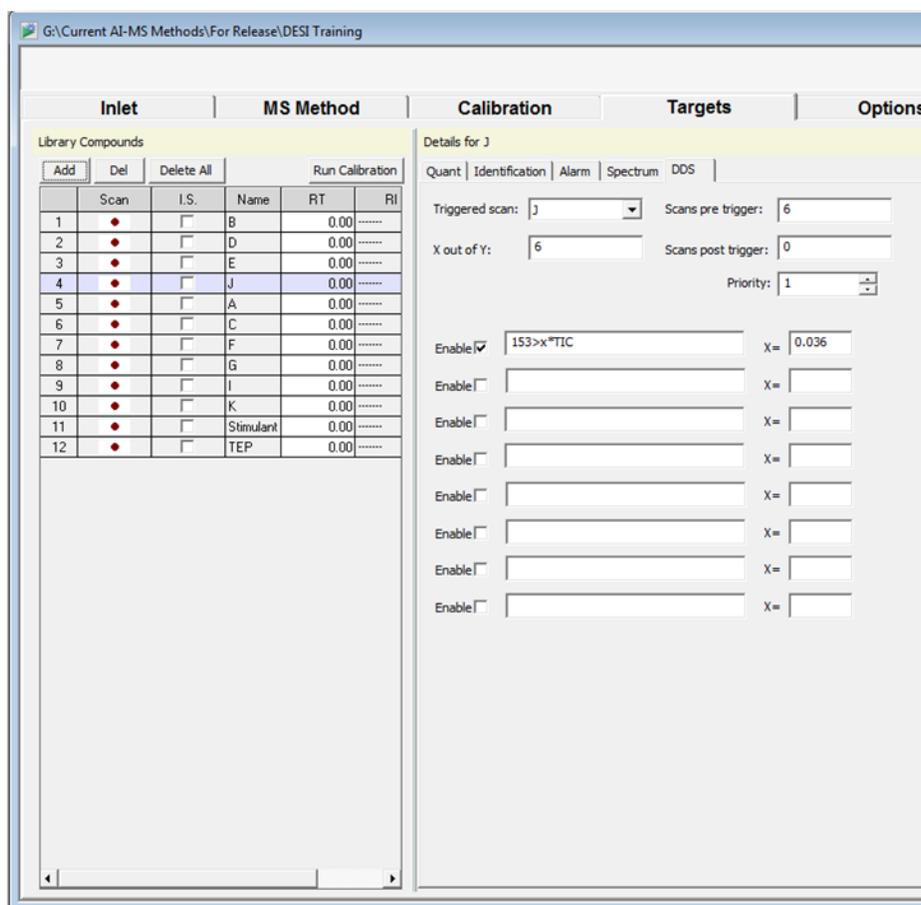

Figure 4.26 – “DDS” tab
7. Under the “Targets” tab, select “DDS” (Figure 4.26).
Eight rules can be used in order to initiate a triggering event during MS scanning. Generally, the pre-loaded method focuses on the total ion count, “TIC,” as shown above (Figure 4.26). The number entered into the rule slot is the m/z of the precursor ion, which is then followed
Additional rules can be entered based on the relative intensities between peaks of different m/z value present in collected spectra. The rules follow a general form of $A > (or <) X * B$, where A and B are the m/z values of the peaks of interest and X is the scaling factor as before. The “Enable” box must be checked to apply its corresponding rule during scanning (Figure 4.26).